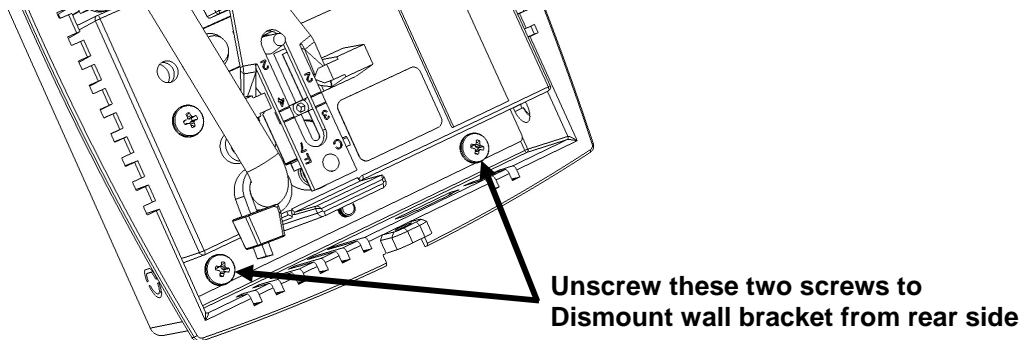

Figure 3. Removing the Universal Wall Bracket
2. If the Universal Wall-mounting Bracket is attached to WPT-DB, remove it by unscrewing the two captive screws on the bottom of the WPT-DB, as shown in Figure 3.